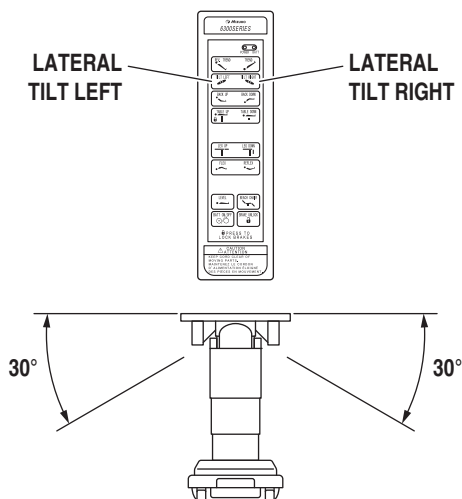

Figure 2-9. Lateral Tilt Positioning
c. Lateral Tilt To achieve lateral tilt right (as viewed from the head end of the table), press the TILT RIGHT button (figure 2-9). To achieve lateral tilt left, press the TILT LEFT button. Tilt of up to 30° may be obtained.